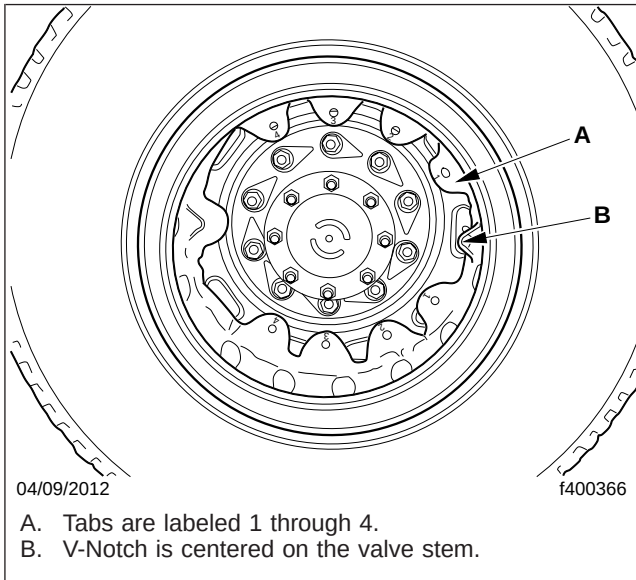

Fig. 3, Wheel Liner Placement
4. Place the wheel liner into the wheel with the labeled V-notch of the inner retaining ring centered on the valve stem, as shown in **Fig. 3**. This provides access to the valve stem.
5. The wheel liner inner retaining ring has sets of tarpaulin tabs that are labeled 1 through 4. The tabs on either side of the V-notch are labeled 1. Beginning with the numeral 1 tabs, push the tabs in. Then push in both numeral 2 tabs, and so on until all of the tabs are pushed in. See **Fig. 3**.